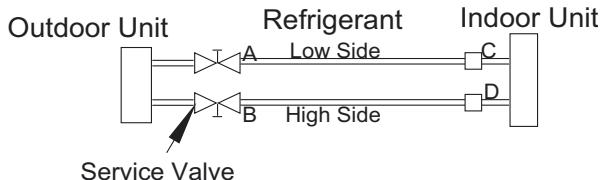

Fig. 10 – Service Valve
- 1 Completely tighten the flare nuts (A, B, C, D, E). Fully open all circuits service valves. Connect the manifold gage charge hose to the charge port of the low side Master service valve to evacuate all circuits at the same time (see Fig. 10).